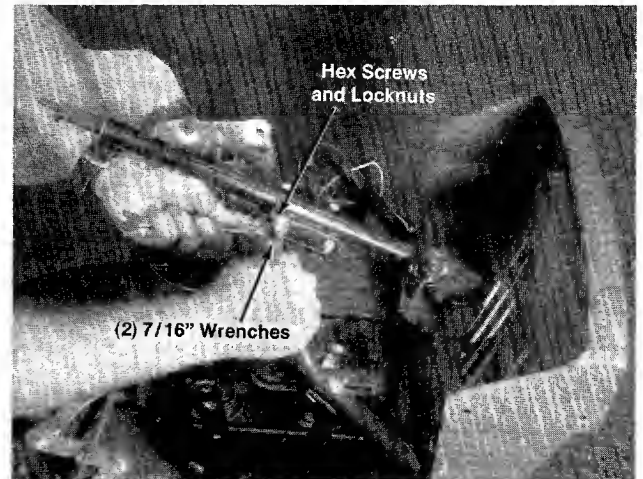

FIGURE 6.
3. Place the other tube clamp on top of steering shaft and secure with four hex screws and hex locknuts. Two $\frac{7}{16}$ " wrenches are required. See figure 6.